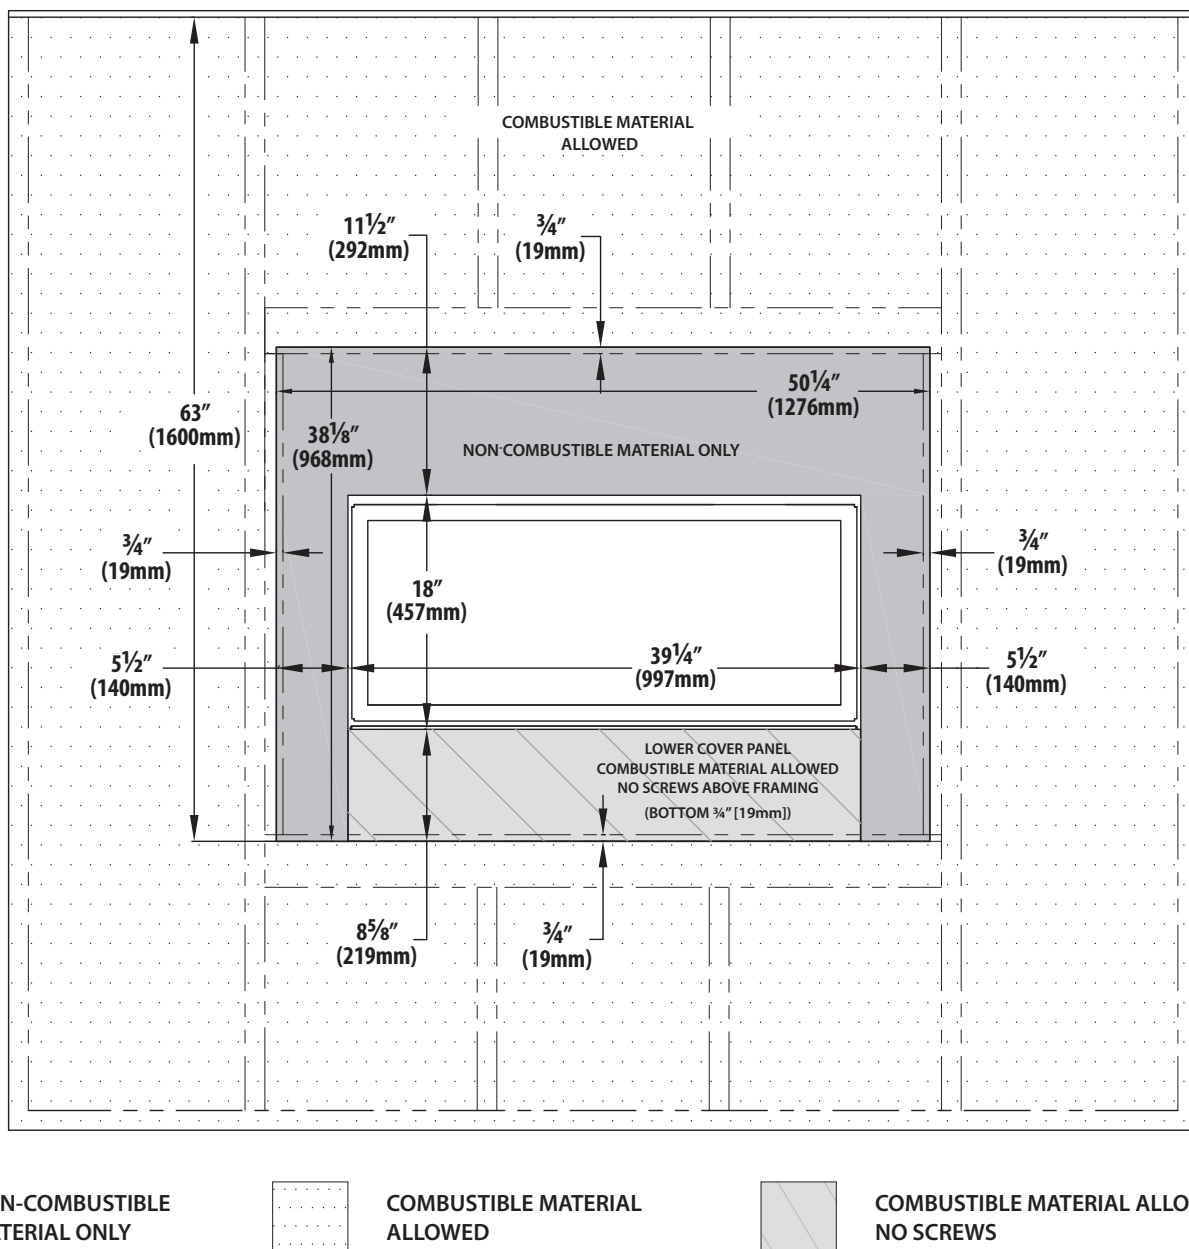

FIGURE 4.3 Minimum Non-Combustible Material Dimensions
- It is acceptable to pre-drill holes and to use self-tapping screws to attach the non-combustible material to the top and sides of the fireplace face See **FIGURE 4.3** on page 23.